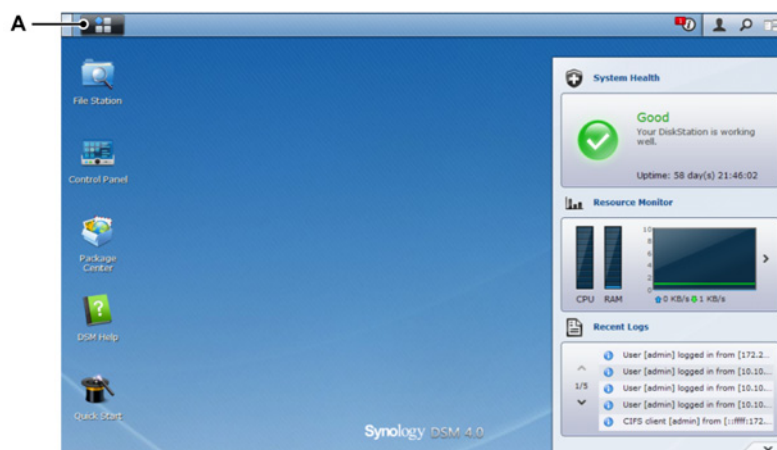

Figure H.3: Home screen
- 5 When logged in and on the home screen, click the main-menu icon (A) as shown in the following Figure H.3.